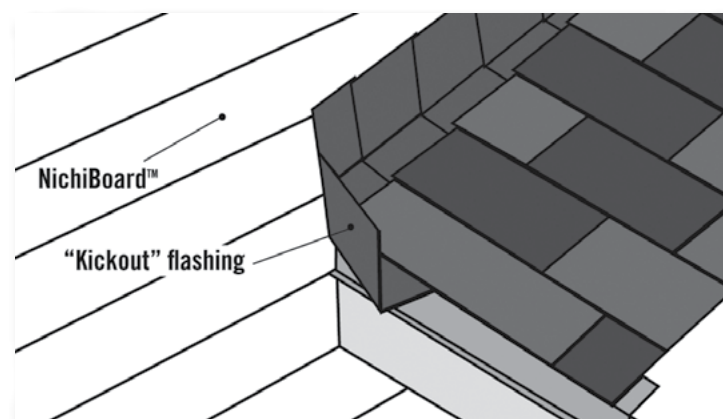

Fig. 1.4
- A "kickout" flashing must be present at roof - wall intersects to direct roof water away from the siding and trim. (Fig. 1.4)